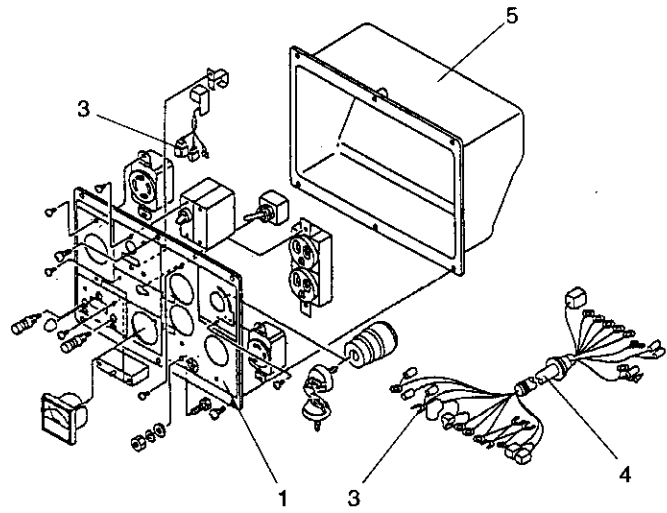

Fig. 5.2.3 Control panel unit components
⑤ Remove sub-frame 7.
⑥ Remove damper 8.
- Fig. 5.2.3 illustrates the scope of work and parts configuration.